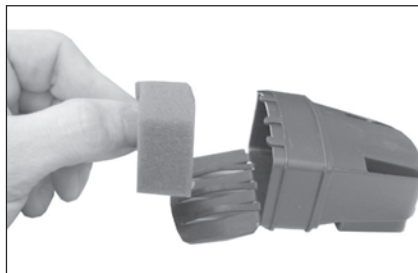

Figure 11
- 2 Remove the sponge filter from the filter cover. See figure 11.